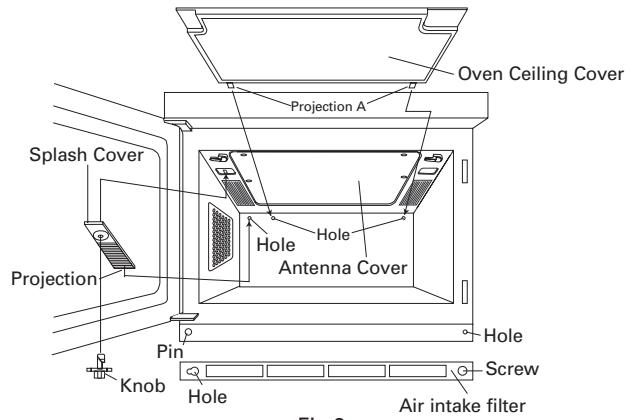
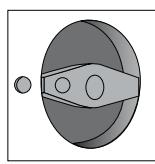
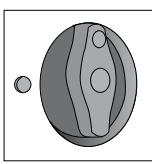

Fig.2
Fig.3
Fig.4
Remove the splash cover as shown in Fig. 2. Wash in a mild detergent solution. **Don't use detergent with orange oil**, as the splash cover may melt.
Remove the oven ceiling cover as shown in Fig. 2 and separate the frame from the cover.
**Remember to unplug the power cord.** Turn the 2 tabs holding the oven ceiling cover to the oven cavity ceiling as shown in Fig. 2, then gently pull the cover downwards to separate from the oven cavity ceiling. Then separate the cover from the frame. It is held in place by 4 catches.
**Remember to unplug the power cord.** Turn the knob holding the splash cover to the ceiling of the oven as shown in Fig. 3 and remove it from the ceiling of the oven.
**Remember to unplug the power cord.** Replace the cover in the frame. Insert projection A (2) into the 2 holes in the rear cavity wall and then insert projection B (2) into the 2 holes in the oven cavity ceiling as shown in Fig. 2. Then slide the tabs in place.
**Remember to unplug the power cord.** Then insert the knob into the hole of splash cover as shown in Fig. 4 and turn it as shown in Fig. 3. Insert the splash cover projection into the hole in the rear cavity wall as shown in Fig. 2 and then replace the knob in the hole through the splash cover. Turn knob as shown in Fig. 4 to hold the splash cover in place.